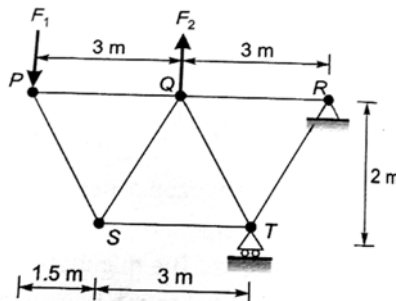

Fig. 4
- For the truss shown in the figure 4, the forces F_1 and F_2 are 9 kN and 3 kN respectively. The force (in kN) in the member QS is (All dimensions are in m).